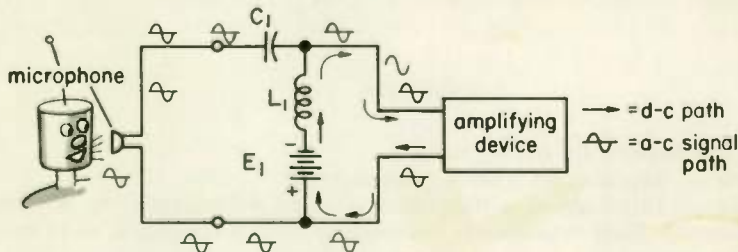
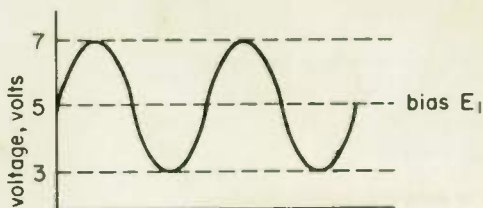
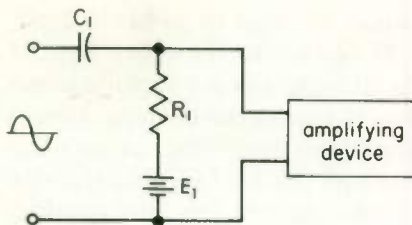

Fig. 18 The basic amplifier input circuit.
Fig. 20
Fig. 24 The input circuit with a resistor.
In Fig. 18, battery E_1 supplies the d-c input voltage to the amplifying device. Its voltage value is important, since the average value of the resistance of the amplifying device, R_1 in Fig. 16, depends upon the voltage of E_1 . The a-c signal is supplied by the microphone. Trace the path of both the a-c signal and the d-c voltage, and note that both are applied to the input of the amplifying device.
The purpose of C_1 and L_1 in Fig. 18 is to steer the a-c and d-c voltages into the desired paths. If it were not for C_1 , the d-c voltage V_1 would be applied to the microphone, where it might cause improper operation and would certainly draw unnecessary current from E_1 .
1. Refer to Fig. 20. Assume the input circuit of an amplifier has a d-c bias of 5 volts (that is, E_1 in Fig. 18 is 5 volts) and an a-c input signal of 2 volts peak value. The composite input voltage when the a-c is zero is (a) _____ volts. At this time R_i in Fig. 16 is at its (b) (*maximum*) (*average*) (*minimum*) ohmic value. When the composite input voltage is 7 volts, the a-c signal is (c) _____ volts peak or (d) _____ volts rms. At this time R_i is at its (e) (*maximum*) (*average*) (*minimum*) ohmic value. The amplifying device resistance is at its largest ohmic value when the composite input potential is (f) _____ volts and the a-c input is (g) _____ volts (max).
2. A device that blocks d-c but passes a-c is a (a) _____, and a device that blocks a-c but passes d-c is a (b) _____. The d-c is kept out of the microphone in Fig. 18 by (c) _____, and most of the a-c is kept out of the battery by (d) _____.
REPLACING THE INDUCTOR IN THE INPUT CIRCUIT . . . In most low-power circuits it is practical to replace the input circuit inductor L_1 of Fig. 18 with a high-resistance resistor, as shown in Fig. 24. The purpose of L_1 in the circuit of Fig. 18, you will remember, is
In Fig. 24 the d-c voltage applied to the input of the amplifying device is the voltage of E_1 minus the voltage drop across R_1 . However, when the amplifying device is a vacuum tube, no current from the battery is drawn through R_1 , so that the voltage drop across R_1 is zero. Hence, the d-c voltage applied to the input of the vacuum tube is the same as the voltage of E_1 .
Inductors dissipate no power when a voltage is applied to them. Even though R_1 is chosen large enough to present a large impedance to the a-c input signal, this signal will dissipate some power in R_1 , which would not be the case if a choke were used. With large power-handling tubes, there may be considerable power loss with a resistor, so that it is better to use a choke as in Fig. 18.
When the amplifying device in Fig. 24 is a transistor, d-c current *will* flow through R_1 , so that the input d-c voltage to the amplifying device will be much less than E_1 . However, only a very low d-c voltage (perhaps 0.2 volt) is needed at the input to a transistor. By using a battery of several volts for E_1 , most of the voltage can be lost in R_1 and there will still be enough d-c voltage left for the input needs of the amplifying device.